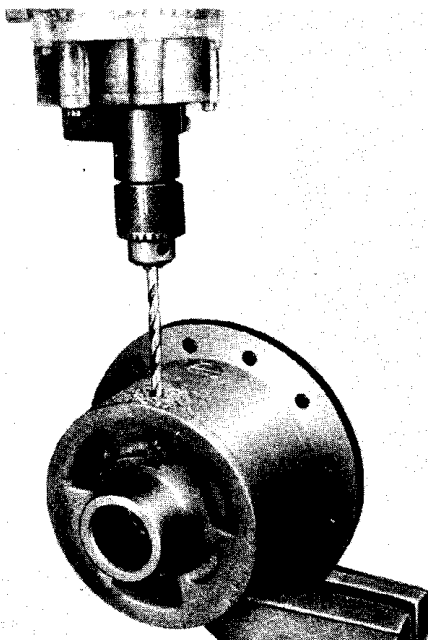

Fig. 8—Removing Differential Case Cap Locking Pins
- (1) Mount differential case ring gear flange in a heavy vise using copper jaws.
- (2) Remove bearing from differential (case cap side only).
- (3) Remove differential case cap locking pins by center punching and drilling (Fig. 8). Remove shells of pins left in holes with a punch.